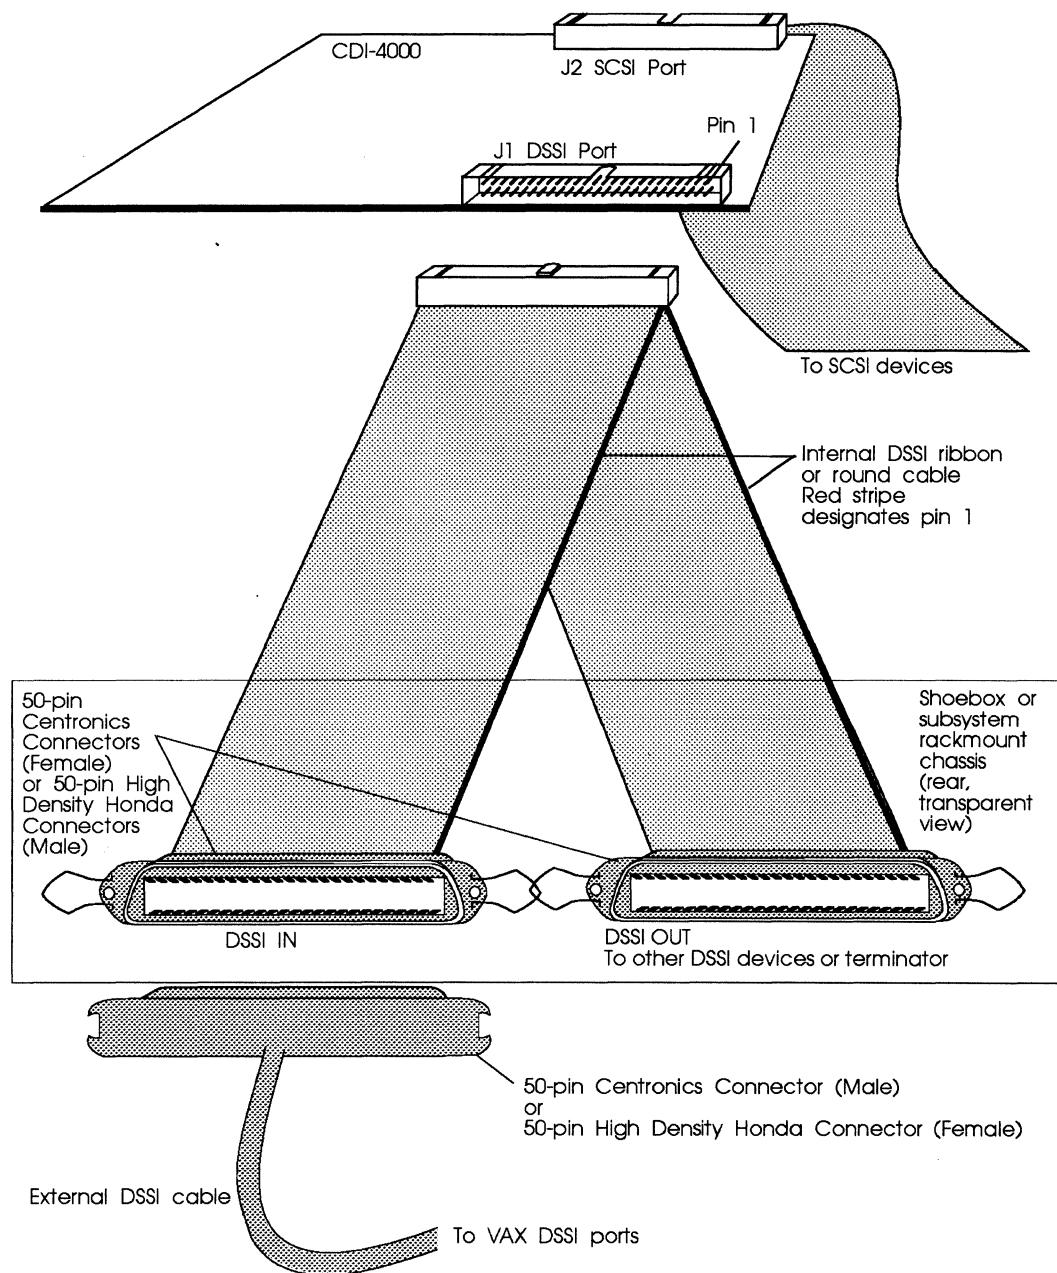

Figure 3-7: Cable connection
- 2 If you are installing the CDI-4000 into a shoebox or system chassis, the connection will be similar to that shown in Figure 3-7.